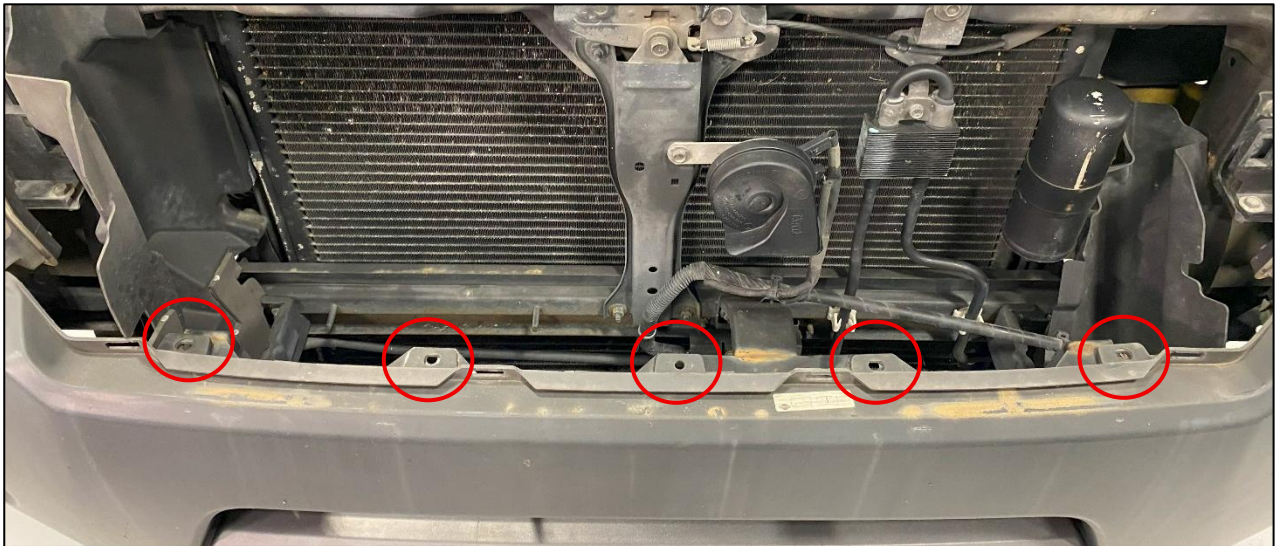

Figure 6
11. Remove the (5) five clips on the top of the Front Bumper. *Figure 6.*